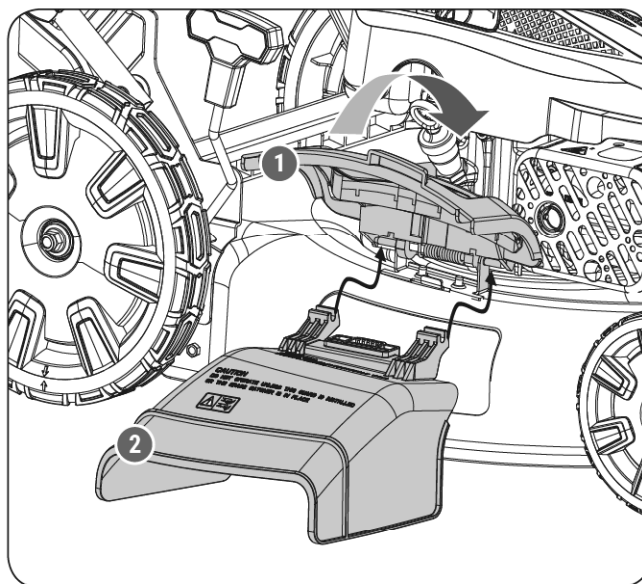

Figure 4
1. Lift the mulch cover on the side of the mower. (See **Figure 4, illustration 1**)
2. Slide the two hooks of the side discharge cover under hinge pin on mulch cover assembly. Lower the mulch cover. (See **Figure 4, illustration 2**)